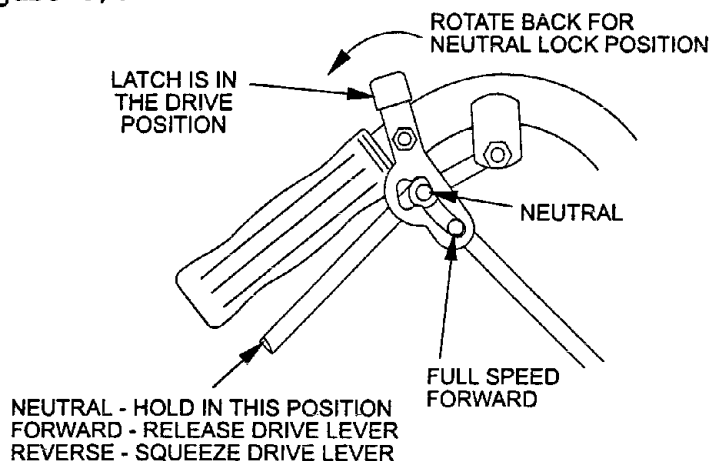

FIG. 6
- 4.1.3 Drive Levers: Located on each side of the upper handle assembly directly below the handle grips (See Figure 6). These levers individually control the speed and direction of each drive wheel. When the speed control lever is moved out of the neutral position and the lock latches are moved into the drive position, as shown in Figure 6, and the drive levers are released, the drive wheels are engaged in the forward direction.
- 4.1.4 Neutral Lock Latch: Located directly above the drive levers. These latches allow the operator to lock the drive levers in a "neutral" position where neither of the drive wheels are engaged in either a forward or reverse direction (See Figure 6).
- 4.3.4 Drive Lever/Neutral Lock Latch Operation: To lock the drive levers in neutral, squeeze the drive levers back to the neutral position (*Do Not squeeze the drive levers all the way back as this will cause the drive wheels to go into full reverse direction*). Place thumbs on the upper portion of the neutral lock latches and move them to the rear. Release drive levers (See Figure 6).